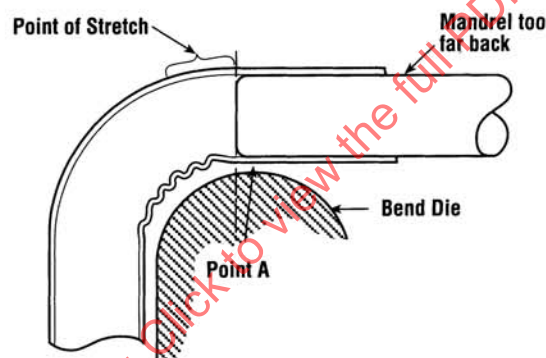

FIGURE 13 - Mandrel Too Far Back
7.1 Problem: When Mandrel Too Far Back From Tangent (Figure 13):
When the mandrel is advanced forward in small increments (towards clamp die), wrinkles may begin to form in back of tangent. At this point, the mandrel is not far enough forward to generate enough pressure on the inside of the bend to compress the material. Initially, the bend may be smooth, but as it progresses past approximately 20°, the material pushes back forming a wrinkle or wave at point A (Figure 13). Continually formed and flattened between the mandrel and the bend die, the wrinkle never entirely disappears. When the bent tube is removed from the bend die and there is a large buckle or kink at point A, it is necessary to continue to advance the mandrel until the material can't squeeze back between the bend die and mandrel.